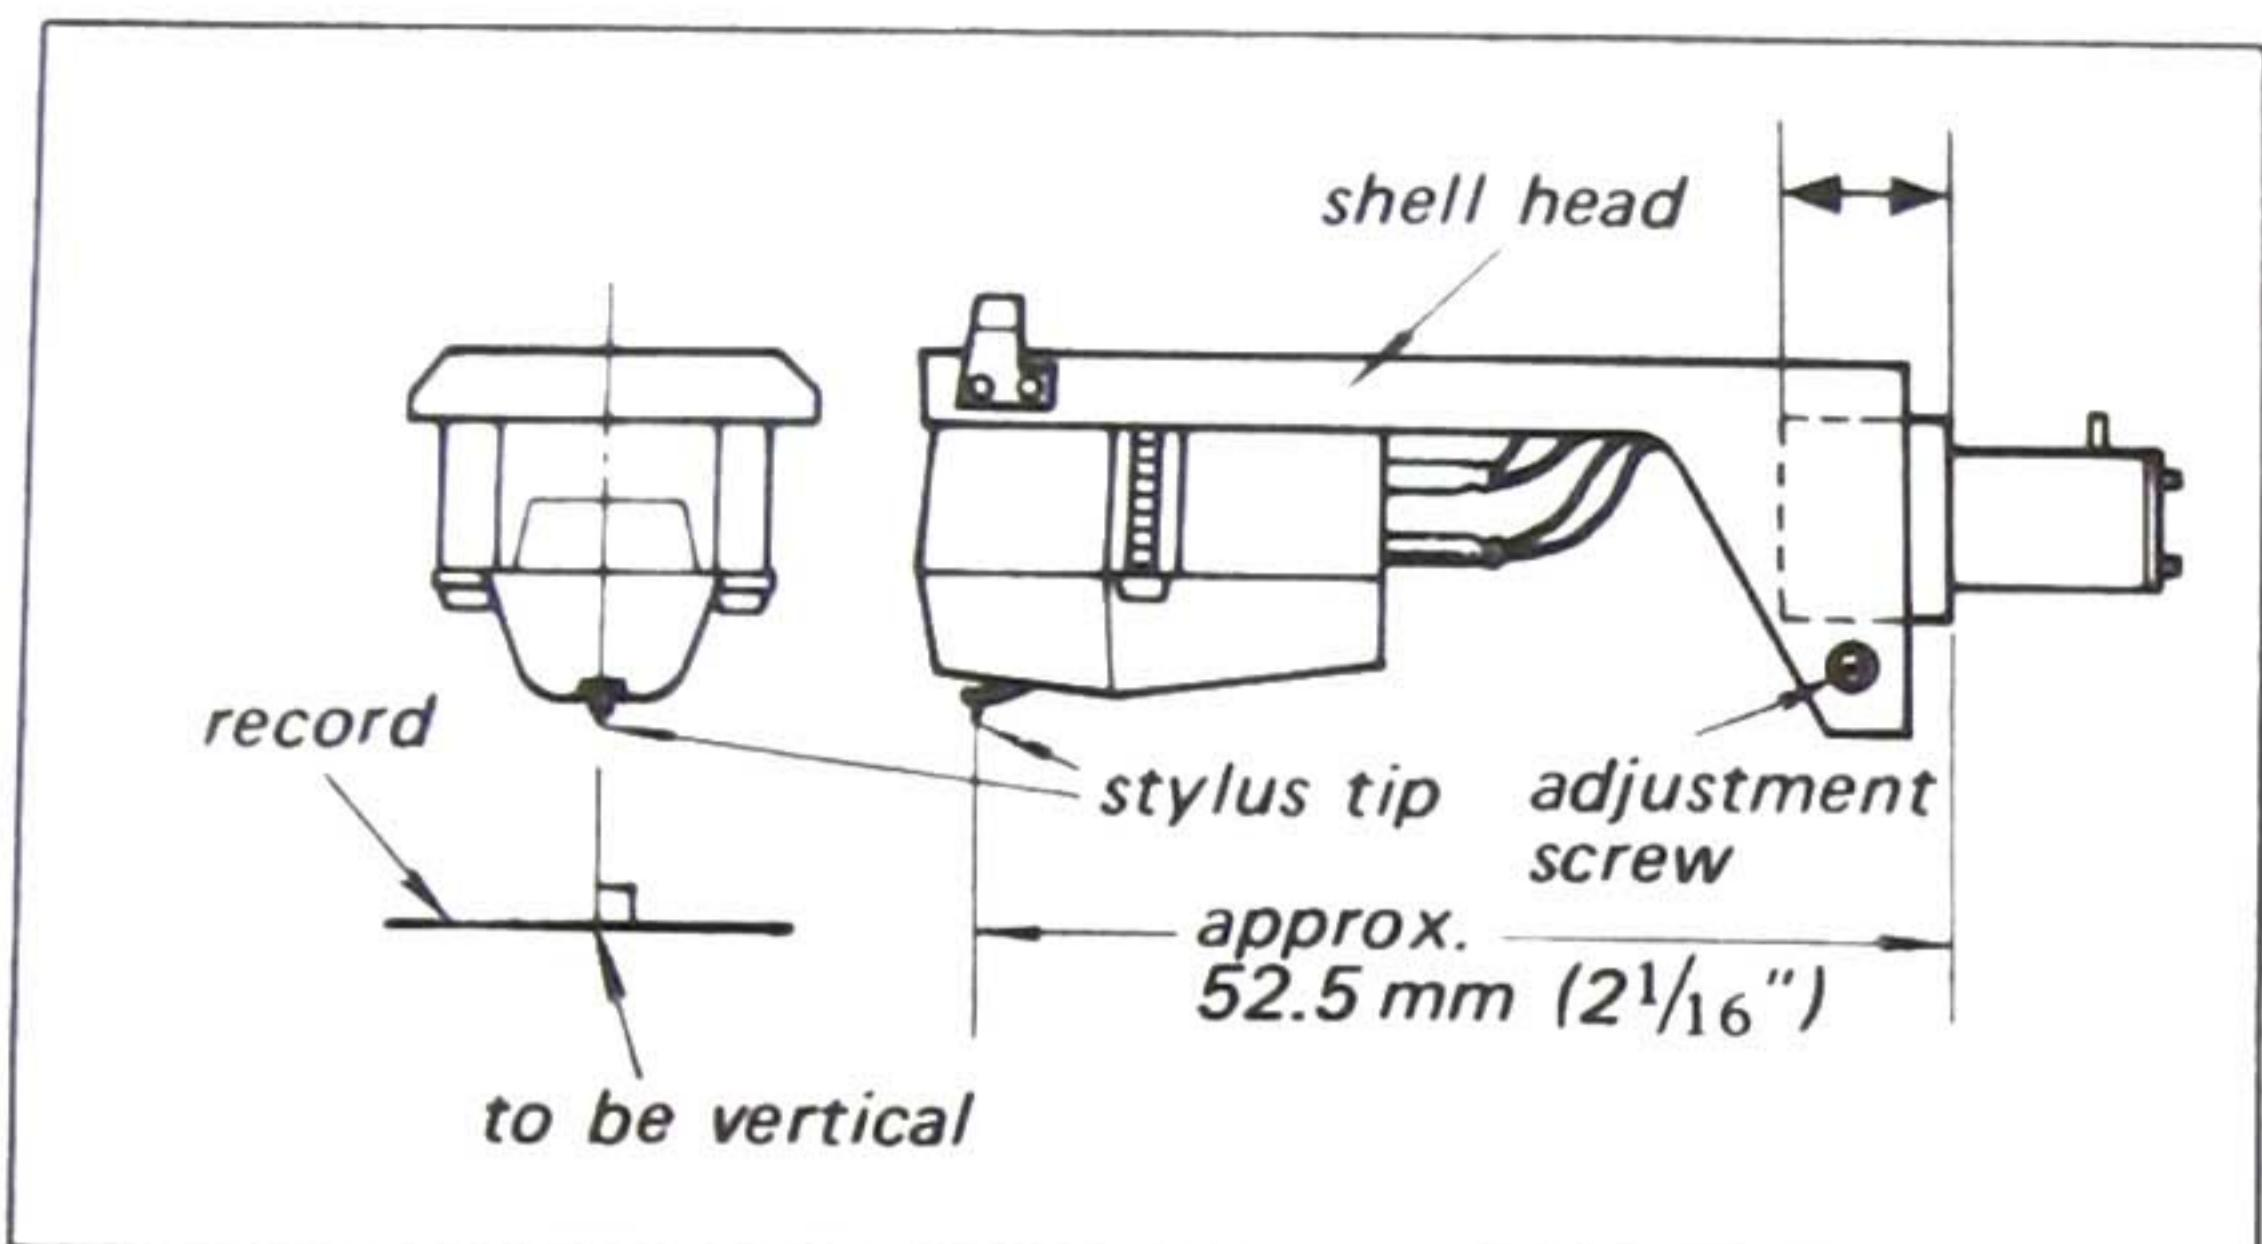

Fig. 2-11. Shell head position adjustment
- a) Loosen the adjustment screw with a screwdriver as shown in Fig. 2-11.
- b) Slide the shell head to a position which is 52.5 mm (2 1/16") away from the stylus tip to the end of the shell head as shown in Fig. 2-11.